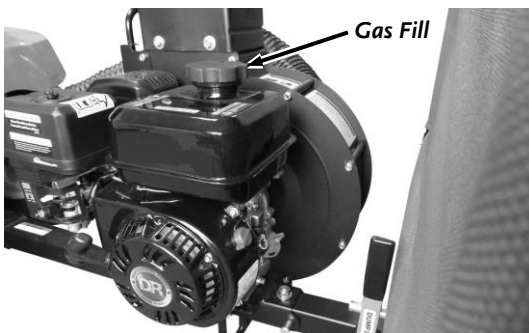

Figure 63
5. Fill the gas tank (**Figure 63**) to within 1-1/2 inches below top of fill neck (to allow for fuel expansion) with fresh, unleaded gas. See your Engine Owner's Manual for more information.